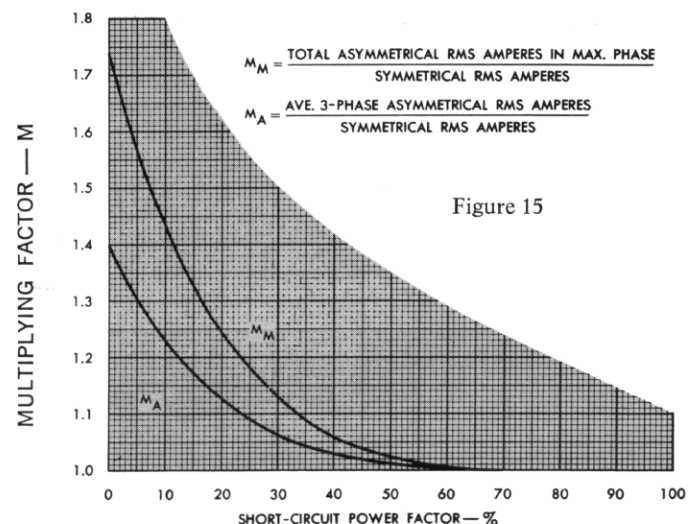

Figure 15
8. Asymmetrical short-circuit currents, if desired, can be found from the symmetrical values above by using a multiplying factor read from Figure 15 and corresponding to the short-circuit power factor at the point of fault. Use the multiplying factor from Curve M_A to find the average 3-phase asymmetrical amperes and Curve M_M to find the